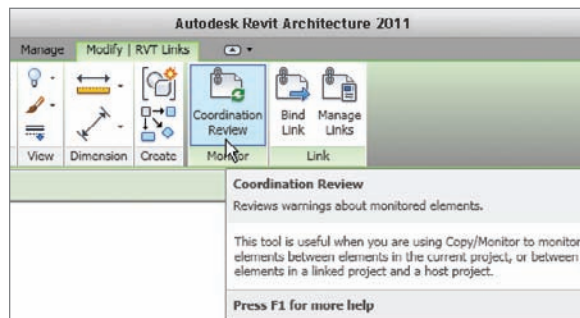

FIGURE 20.14 The Coordination Review button on the Monitor panel of the Modify | RVT Links tab
9. On the Monitor panel of the Modify | RVT Links tab, click the Coordination Review button, as shown in Figure 20.14.